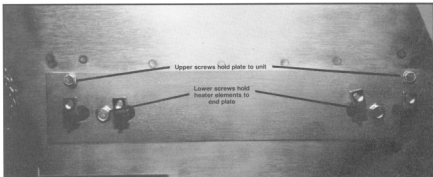

Figure 15
Lower Heater Element Assembly (RT-2T) See Figure 15, 16, & 17
3. Remove the 2 upper hex head sheet metal screws holding the end plates to both sides of the unit. (See Figure 15)